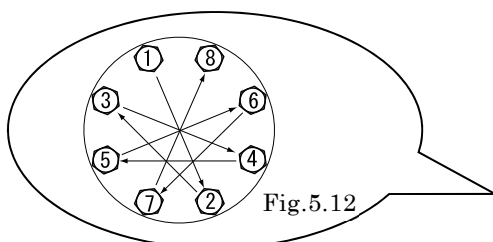

Fig.5.12
- Tighten the bolts gradually in a diagonal sequence with even torque. <Fig.5.12>